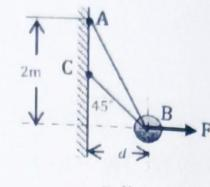

Fig 2.33
- 1) Determine the forces in cables AB and BC needed to hold the 50 kg ball B in equilibrium for fig 2.33. Given $F=300N$, $d = 1m$. (Ans: $F=426.7N(T)$; $F_{BC} = 155.7N (T)$)